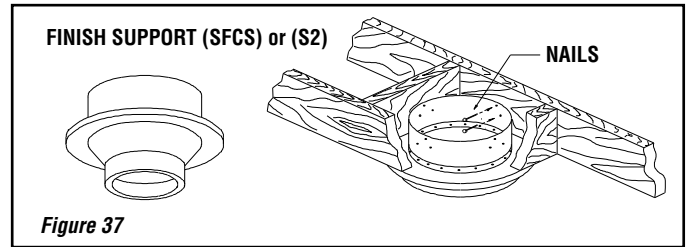

Figure 37
Step 2. From below push the support into the framed hole. Nail the support to the framed box using (12) 3" spiral nails (see **Figure 37**).